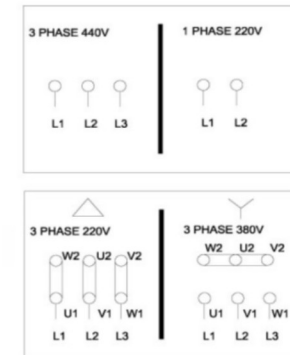

Fig.2
- (1) Refer to Fig. 2 for correct wiring it is important that wiring be correct and that motor is properly grounded.
- (2) Check the following points before turning on operation switch